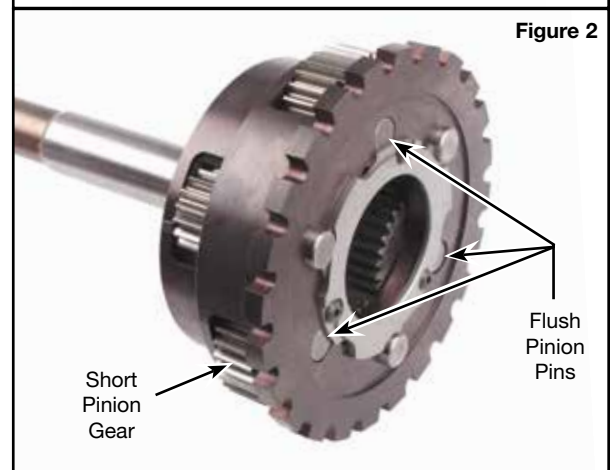

Figure 2
- Temporarily re-install retainer plate to hold other three pins in location as Sonnax ring gear stabilizer race installation is completed (**Figure 2**).